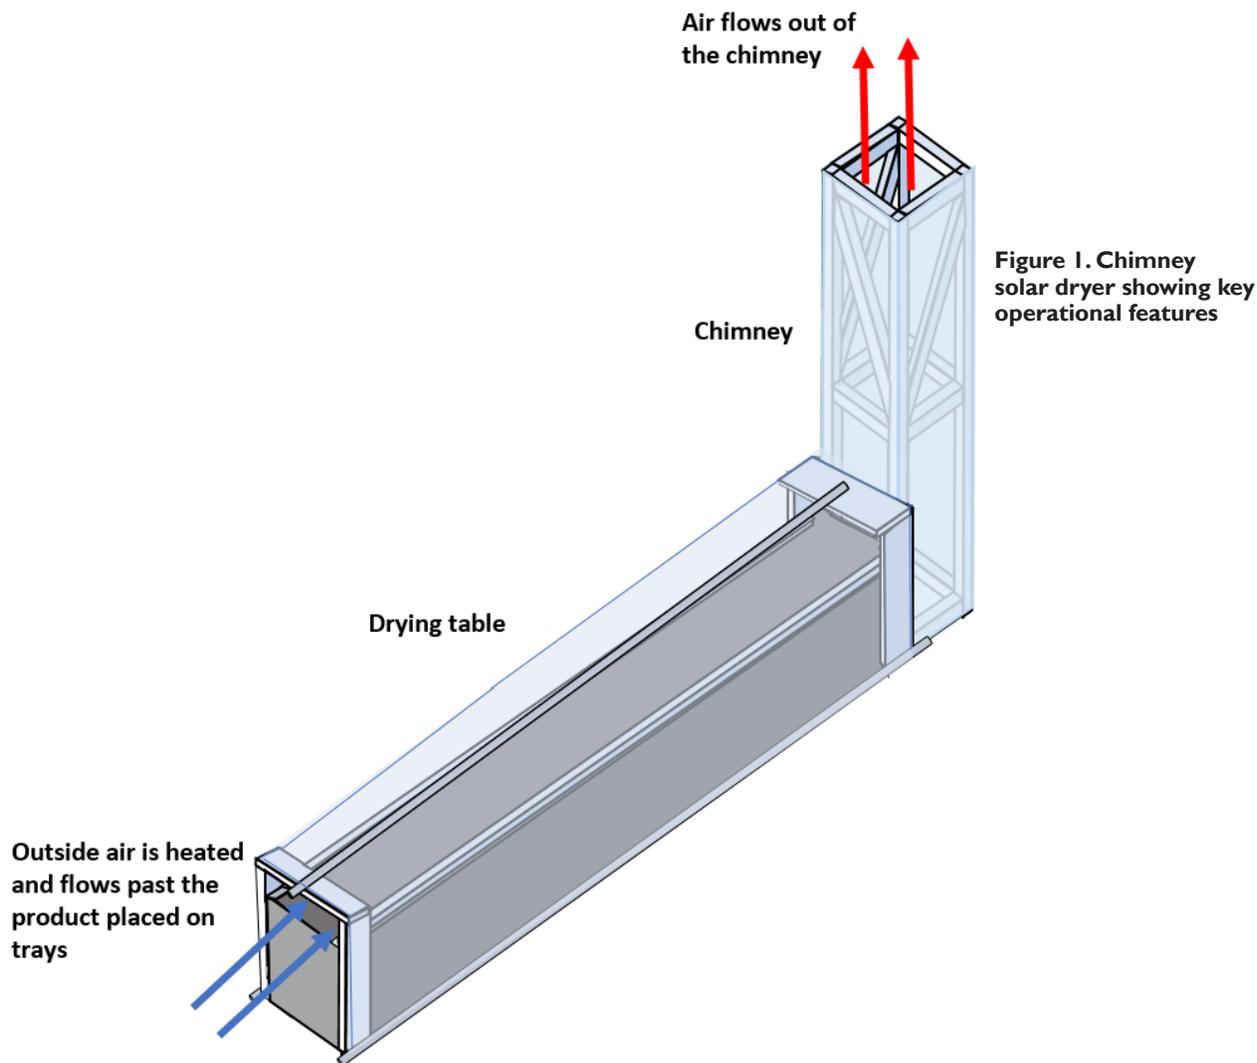

Figure 1. Chimney solar dryer showing key operational features
- The dryer comprises a long table covered with black plastic or fabric that is connected to a chimney at one end (as shown in Fig. 1).